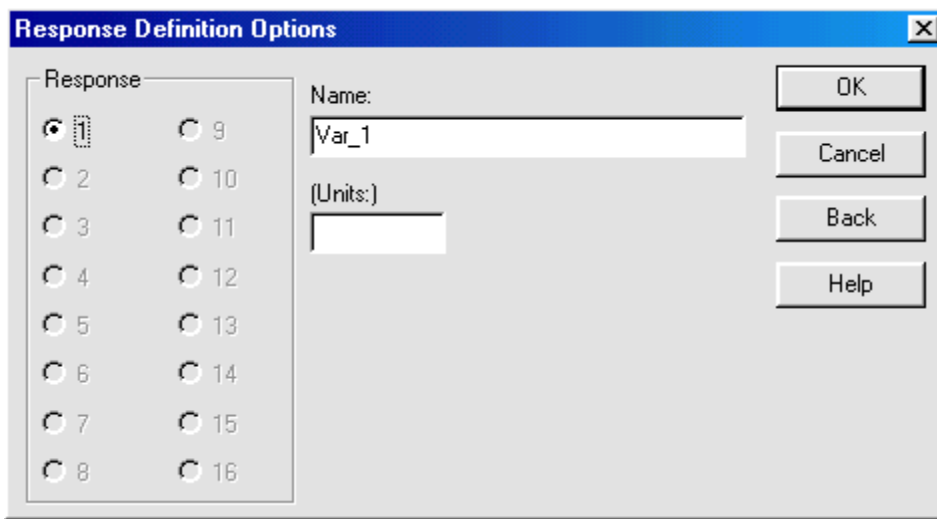

Figure 3-3. Response Definition Options Dialog Box
5. Click OK to display the Response Definition Options dialog box shown in Figure 3-3.